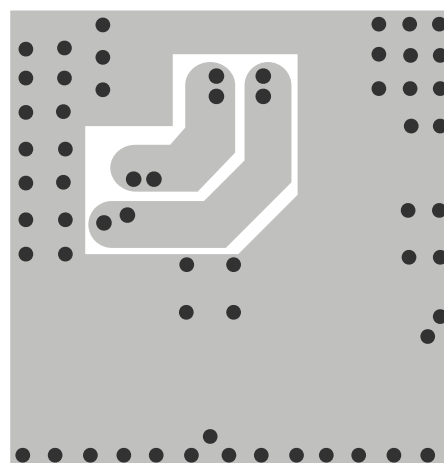

Figure 3 — Layer 2
- Make all ground connections to a solid ground plane as shown in the example layout (Figure 3).